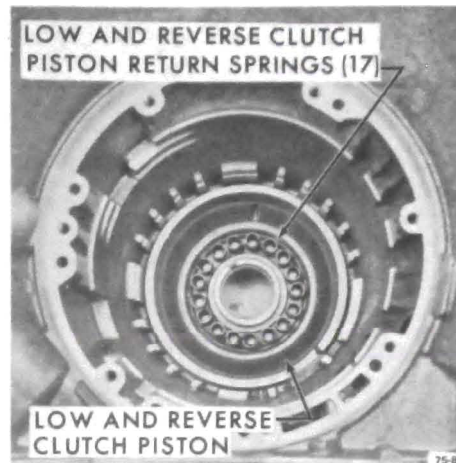

Figure 75-120
2. Remove seventeen (17) piston return coil springs from piston. See Figure 75-120.